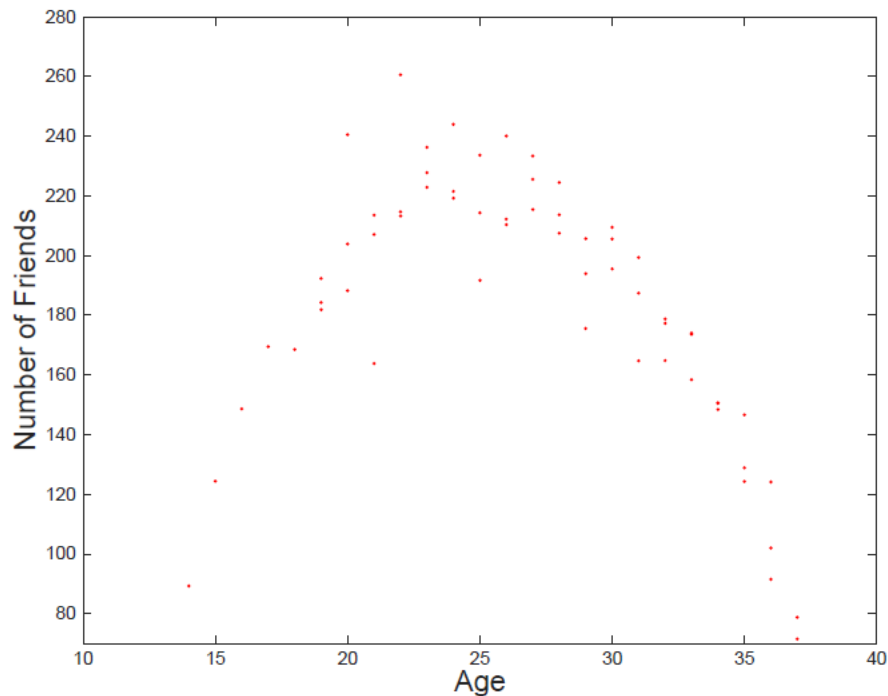

Fig. 4: Number of friends vs. age
- (a) You collect a bunch of data regarding the age of the current users and the number of friends they have. Using this data, you'd like to develop a predictive model for the number of friends a new user will have. The data you have collected looks like the data in Fig. 4.